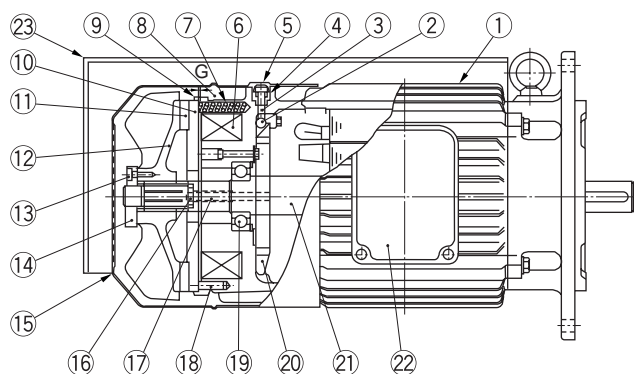

Fig. 16 CMB-20
<FB-20 and 30> (c.f.p.14 fig. 16 & 17)
The construction of CMB brake is shown in Fig.16. A spring is used for braking operation (nonexcitation operation type).
To manually release the brake without turning on the power, operate the brake release device in the following manner (Fig.16 on page 17):
Braking will be possible more than 1,000,000 times before brake lining ⑪ must be replaced. When the gap G of the brake exceeds 1.2 mm before 1,000,000-time operation, make adjustment in the following manner (Fig.16 on page 17):
- (1) Remove plug ⑤ and cover ⑮. (Remove outdoor cover ②③ first in the case of the outdoor type.)
- (2) Remove dustproof seal ⑨.
- (3) Remove bolt ⑬ with a hexagon wrench. (2 places)
- (4) Turn brake release bolt ③ clockwise to completely release the brake, and tighten retention nut ⑭ until brake lining ⑪ is about to be in contact with brake wheel ⑫.
- (5) Tighten bolt ⑬ with a hexagon wrench. (2 places)
- (6) Return brake release bolt to the original position, and check that the gap G is 0.5-0.7 mm.
- (7) Install dustproof seal ⑨, cover ⑮, and plug ⑤. (Install outdoor cover ②③ in the case of the outdoor type.)